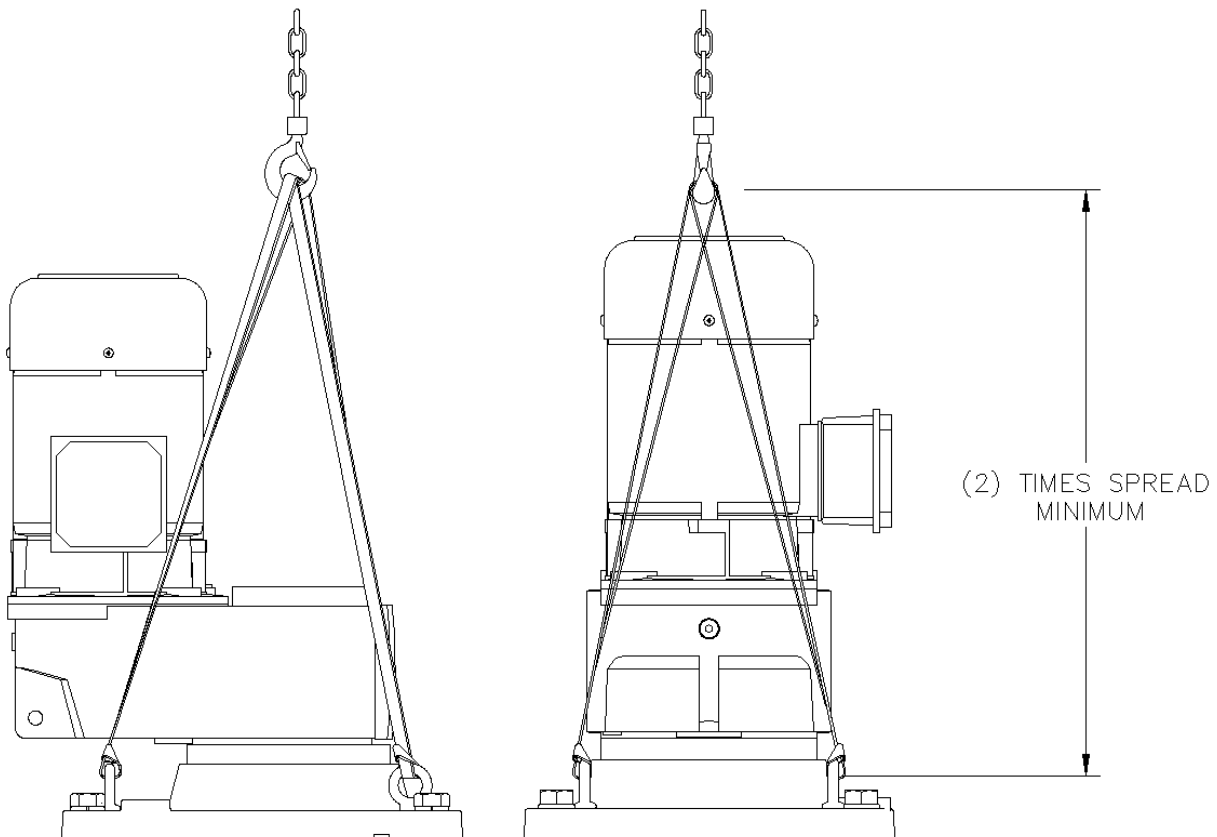

Figure 10. Agitator Lifting System
2. Remove all shipping restraints. A hoist or crane system for the lifting of the agitator parts must be available. Refer to Figure 10, page 27, for lifting instructions. The approximate net weight of the unit is shown on the unit assembly drawing. Since gear drives are typically supplied with the motor un-mounted, always verify that the motor being mounted is correct for the gear drive by checking the assembly drawing.